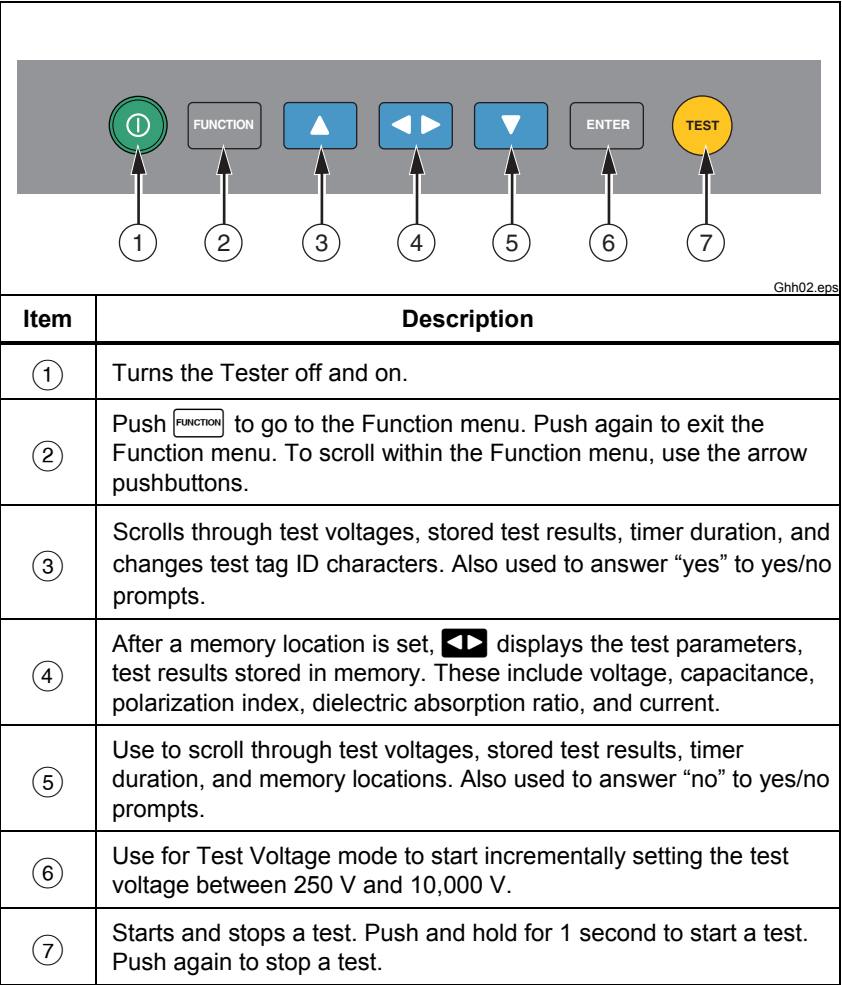

Figure 3. Pushbuttons
- Before and after testing, confirm that the Tester does not indicate the presence of a hazardous voltage, see Figure 3. If the Tester beeps continuously and a hazardous voltage is shown on the display, remove power from the circuit under test or allow the installation capacitance to fully discharge.